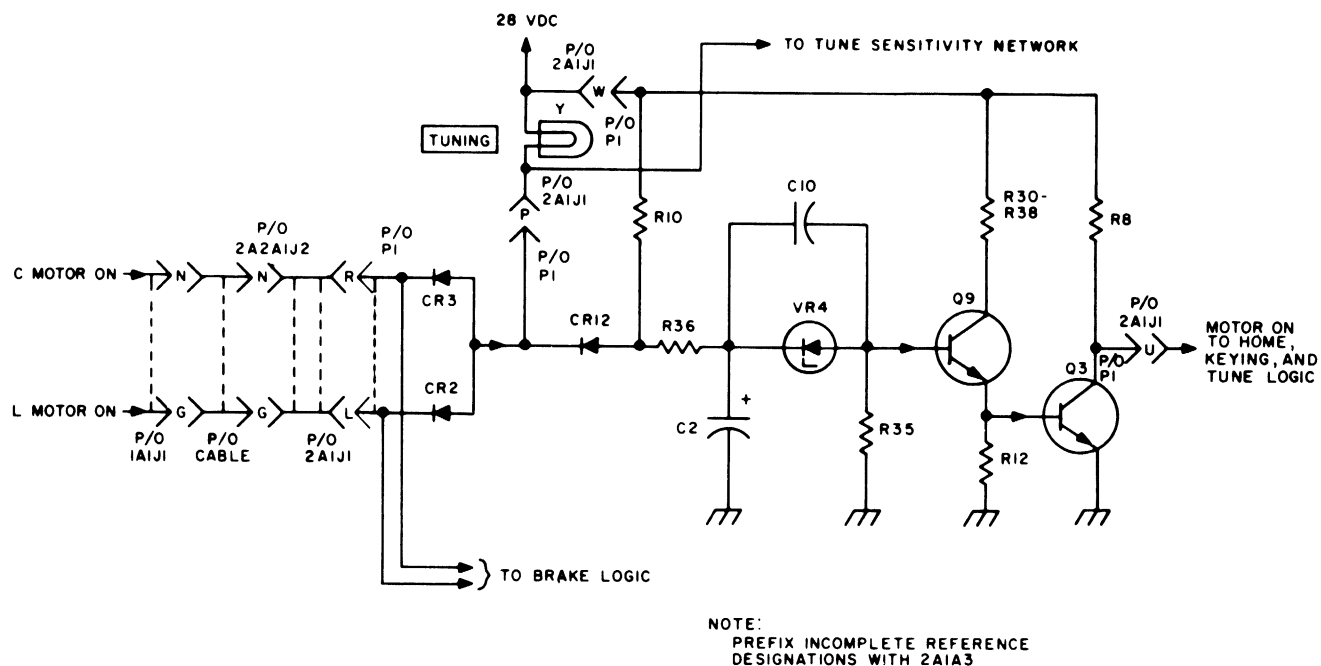

Figure 4.12. Motor-On Logic, Simplified Schematic Diagram
4.2.9.3 Motor-on Logic. The motor-on logic (figure 4.12) consists of a driver (Q9), and inverter (Q3), and various gates. The function of this circuit is to generate a positive level for application to the keying logic (paragraph 4.2.9.6), tune logic (paragraph 4.2.9.5), and home logic (paragraph 4.2.9.2) whenever either or both of the servo motors have an energizing voltage applied. This circuit is used only during automatic and silent operation.